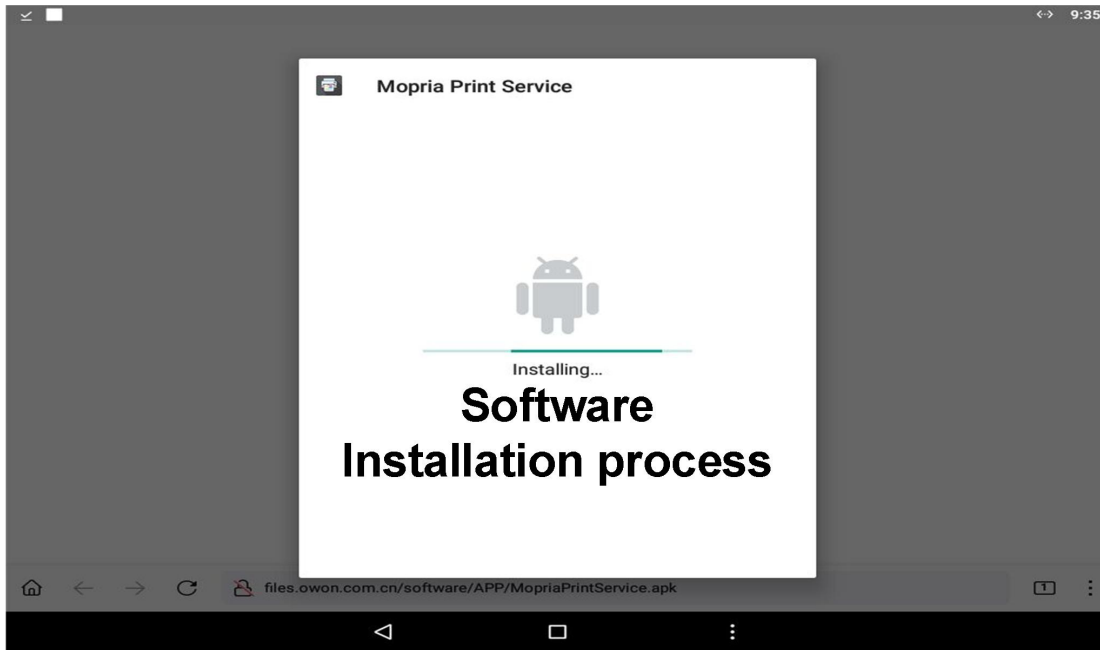

Figure 4
④ Software install produce, as shown in Figure 4.